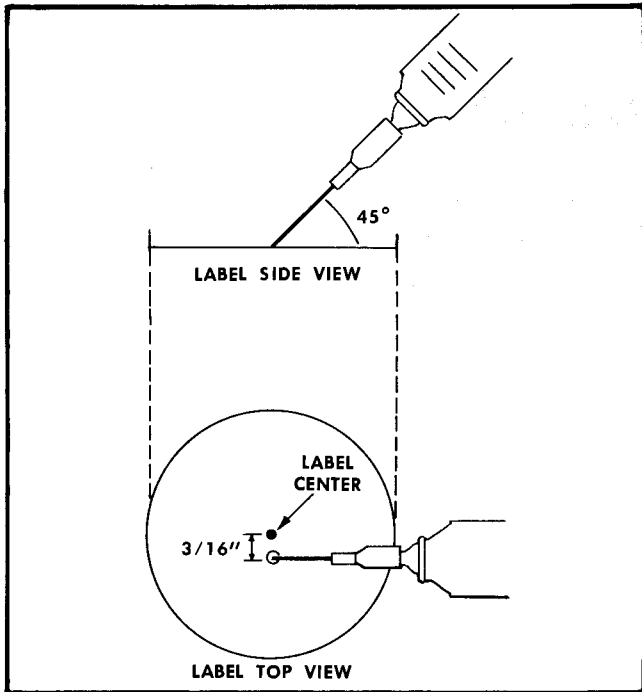

Fig. 5-1. Oiling the fan with a hypodermic.
**Fan Oiling.** During periodic servicing, the fan motor should be lubricated with a few drops of light machine oil (Anderol L826 available from Lehigh Company or Roton Distributors is recommended). An industrial hypodermic needle and syringe is used to insert the oil through the rubber seal, as shown in Fig. 5-1. Hold the syringe at a  $45^\circ$  angle, pierce the rubber seal, then insert the needle about  $\frac{1}{4}$  inch and depress the plunger far enough to inject 3 or 4 drops of oil into the bearing. If a syringe and needle cannot be obtained locally, they may be ordered from Tektronix (Tektronix Part No. 003-0282-00 for the syringe; 003-0285-00 for the needle).